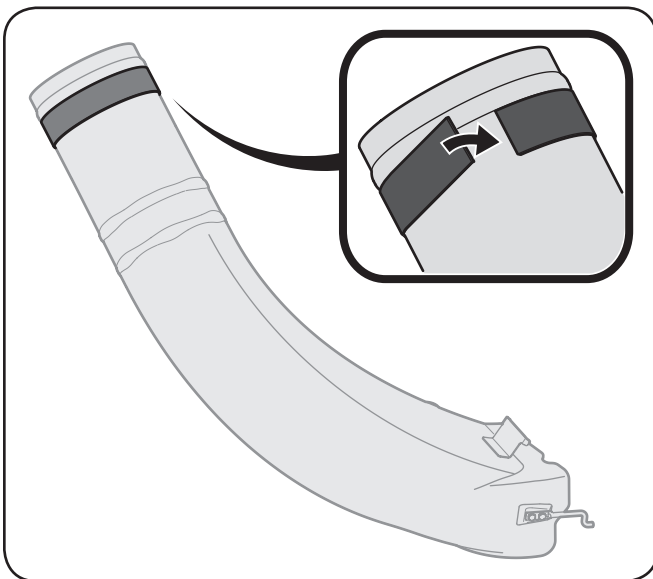

Figure 5-18
- Apply the other wide adhesive rubber strip, included in Hardware Pack 689-00342, onto the upper end of the discharge chute elbow. Place the adhesive strip up against the ridge in the upper portion of the discharge chute elbow, as detailed in the inset of Figure 5-18.